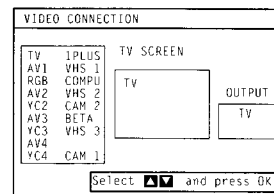

Fig. 42.
- 1 Select Video Connection with Δ + or ∇ - and press OK. The VIDEO CONNECTION menu appears. (See Fig. 42)